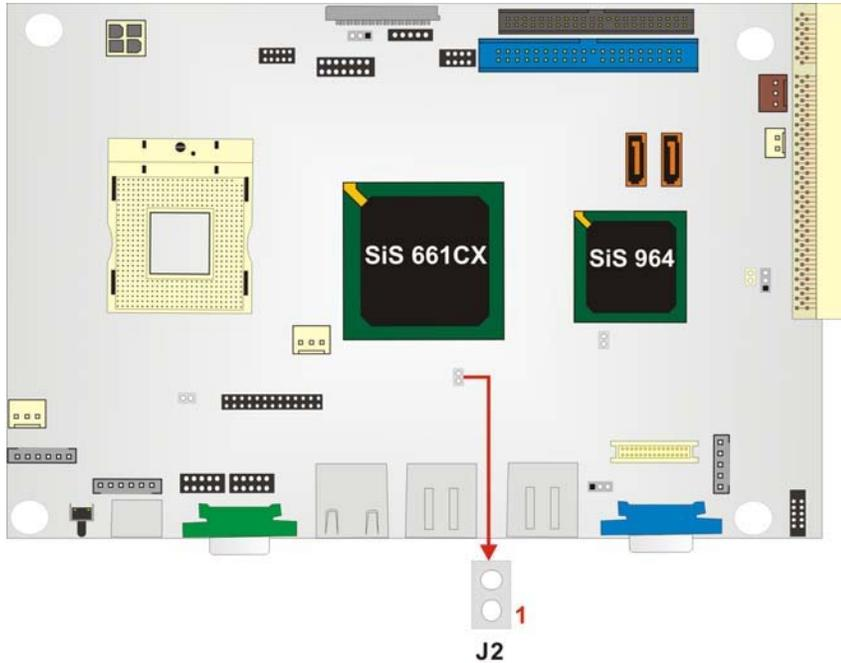

Figure 3-30: J2 Location
- Jumper Location:** See Figure 3-30
The CPU FSB Settings jumper is location is shown in **Figure 3-30**.